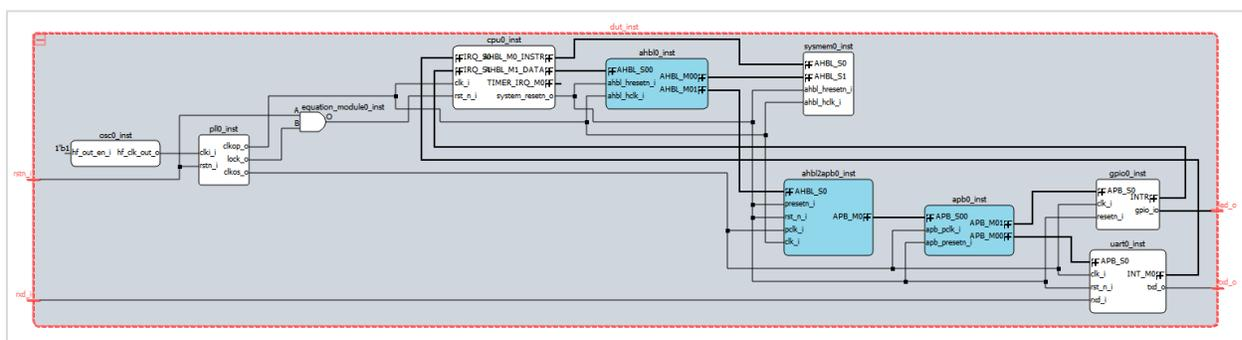

Figure 2.145. Whole SoC Design
- Click the plus sign  of this `dut_inst` DUT block. You can see the whole SoC Design (Figure 2.145). Click the negative sign  to close the expanded bus.